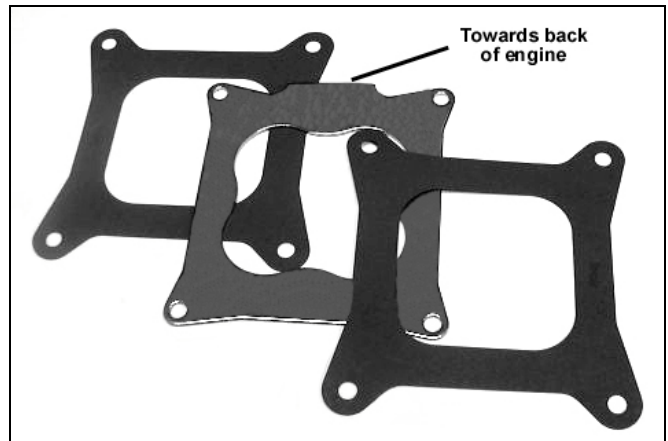

Figure 2
Square-Bore Instructions: (Figure 2)
2. Place the sealing plate (steel) on top of the gasket, making sure that the tab area points toward the back of the engine (See Figure 2.)